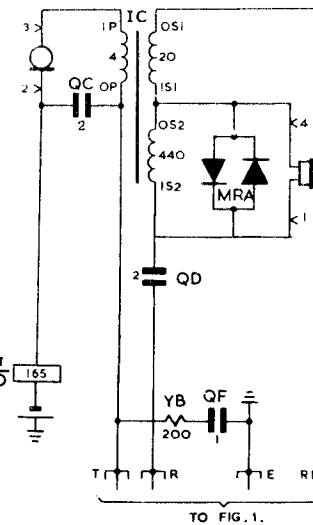
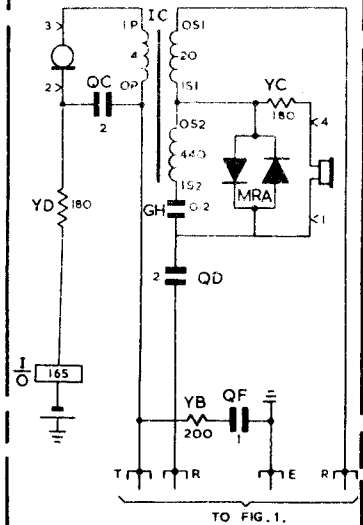

FIG. 9A OPERATOR'S CIRCUIT SUPERSEDED BY FIG. 9B FOR NEW WORK ON $\frac{10 + 30}{65}$ & $\frac{10 + 50}{65}$ (NOTE 5)
FIG. 9B OPERATOR'S CIRCUIT (NOTE 5) $\frac{10 + 30}{65}$ & $\frac{10 + 50}{65}$
(Fig.9A & 9B)	Grebe 54" (Note 5)
- (ii) On Switchboards wired to Figs. 9A and 9B provide Handset No.3 and Plug No.420 with Cord No.4/90 AB-48" and Hook Receiver 'N'.
FIG. 9 OPERATOR'S CIRCUIT SUPERSEDED BY FIG. 9B FOR NEW WORK ON $\frac{10 + 30}{65}$ & $\frac{10 + 50}{65}$ & BY FIG. 9A FOR NEW WORK ON $\frac{10 + 60}{180}$ (NOTE 5)